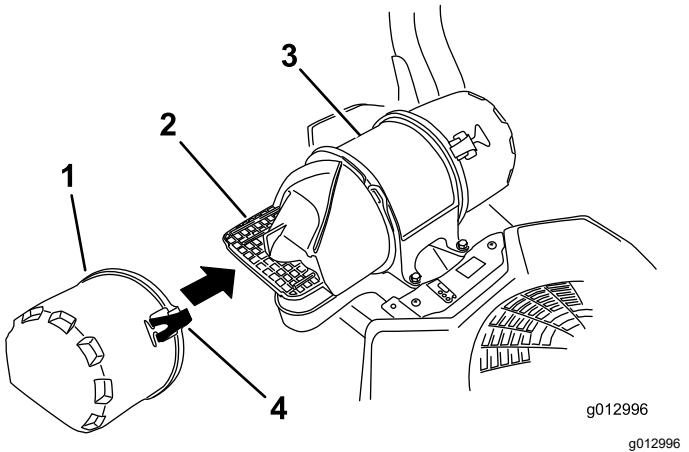

Figure 62
3. Release the latches on the air cleaner and pull the air-inlet cover off the air-cleaner body (Figure 62).
5. Install the air-inlet cover and secure it with the latches (Figure 62).